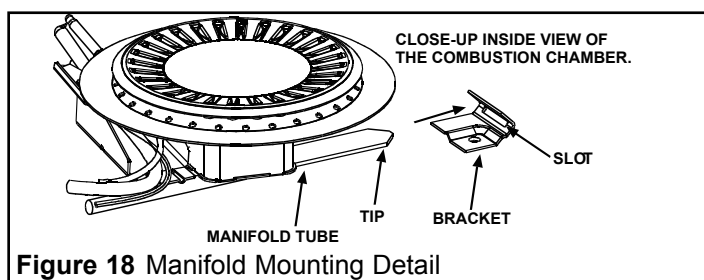

Figure 18 Manifold Mounting Detail
3. Insert the new manifold/burner assembly into the burner compartment, making sure that the tab of the manifold tube engages the slot of the bracket inside the combustion chamber (see Figure 18).